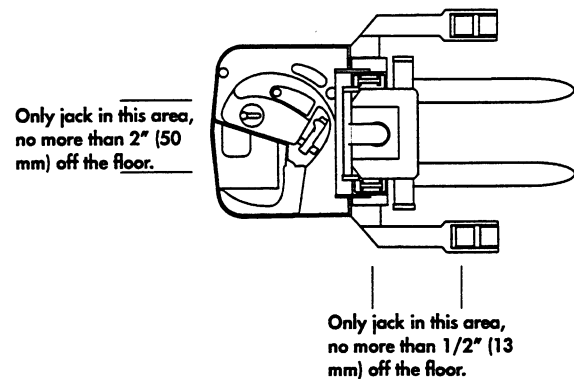

Figure 2-2: Correct Jacking Locations
5. Place the jack under the designated jacking points. See Figure 2-2.
1. Place the jack in the designated jacking position. See Figure 2-2.